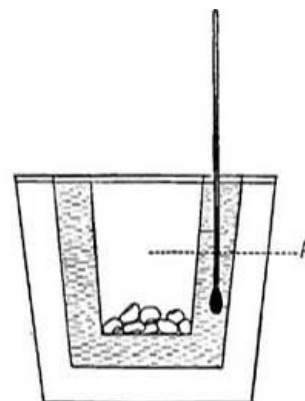

FIG. 26.—The bomb calorimeter from which the fuel value of food can be estimated.
The fuel value of a food is determined by means of the *bomb calorimeter* (Fig. 26). The food substance is put into a chamber *A* and ignited, and the heat of the burning substance raises the temperature of the water in the surrounding vessel. If 1000 grams of water are in the vessel, and the temperature of the water is raised 2° C., the number of calories produced by the substance would be 2000, and the fuel value would be 2000 calories.[A] From this the fuel value of one quart or one pound of the substance can be determined, and the food substance will be said to furnish the body with that number of heat units, providing all of the pound of food were properly digested.
**62. The Fats.** The best-known fats are butter, lard, olive oil, and the fats of meats, cheese, and chocolate. When we test fats for fuel values by means of a calorimeter (Fig. 26), we find that they yield twice as much heat as the carbohydrates, but that they burn out more quickly. Dwellers in cold climates must constantly eat large quantities of fatty foods if they are to keep their bodies warm and survive the extreme cold. Cod liver oil is an excellent food medicine, and if taken in winter serves to warm the body and to protect it against the rigors of cold weather. The average person avoids fatty foods in summer, knowing from experience that rich foods make him warm and uncomfortable. The harder we work and the colder the weather, the more food of that kind do we require; it is said that a lumberman doing heavy out-of-door work in cold climates needs three times as much food as a city clerk. Most of our fats, like lard and butter, are of animal origin; some of them, however, like olive oil, peanut butter, and coconut oil, are of plant origin.